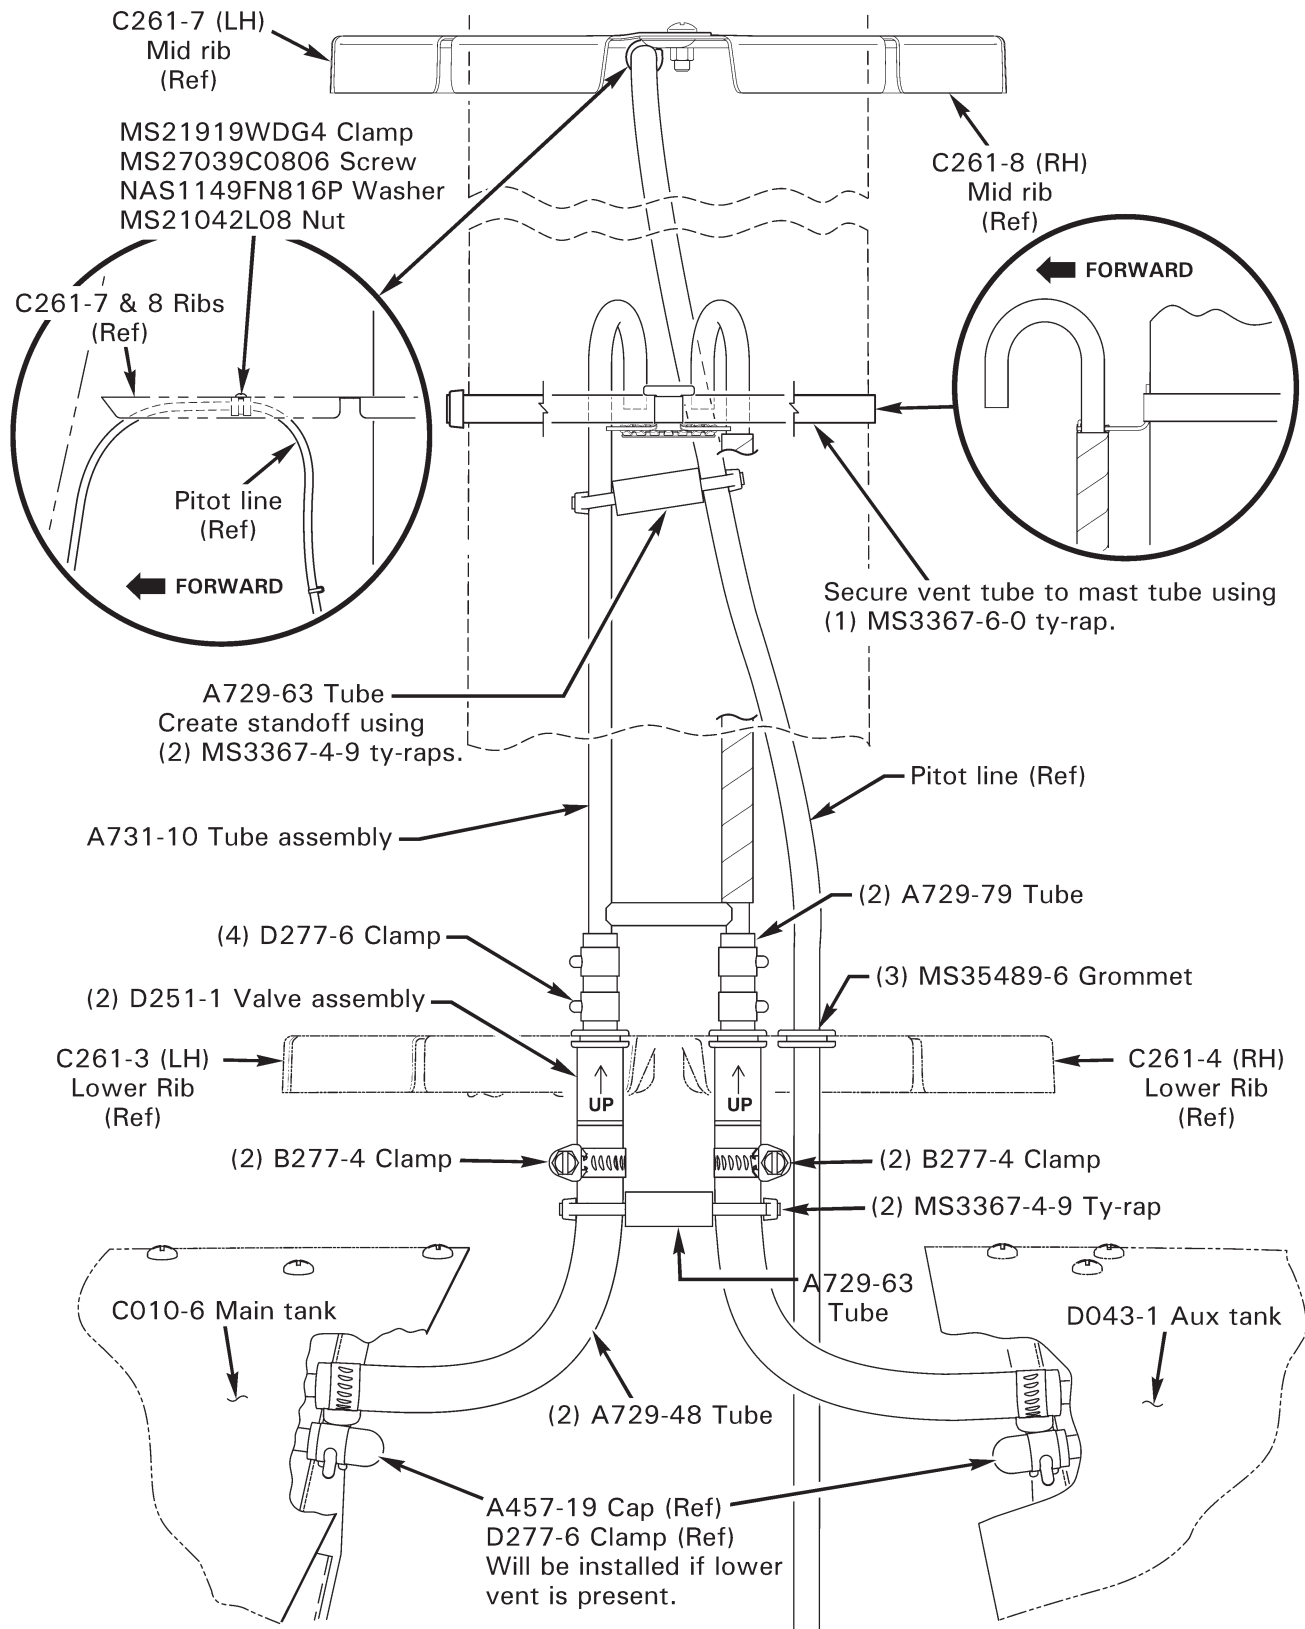

**FIGURE 5**
56. Refer to Figure 5, Detail D. Install new A880-1003 nut, NAS1149F0632P washer, and D255-1 connector in D255-2 angle as shown, and special torque nut to 100 in.-lb. Apply B270-6 sealant sparingly to new A761-1 drain valve tapered threads (do not apply sealant to first thread) and connect valve to connector. Hold connector, special torque valve to 60 in.-lb, and torque stripe per MM Figure 2-1. Install A729-17 tube and D663-1 clamp.
57. Refer to Figure 9. Install (1) B161-4-12 spirap around D205-30 hose assembly on left-side, to cover three inches of hose; trim spirap. Install (1) B161-4-12 spirap around D205-30 hose assembly on right-side, to cover six inches of hose; trim spirap. Connect D205-30 hose to bulkhead-mounted D255-1 connector (Figure 5, Detail D). Special torque nut to 100 in.-lb, and torque stripe per MM Figure 2-1. Secure D205-30 hose at left side to D255-5 support per View A-A, and at right side to C385-1 doubler flange per View B-B. Cinch ty-raps until snug without over-tightening, and trim tip flush with head.